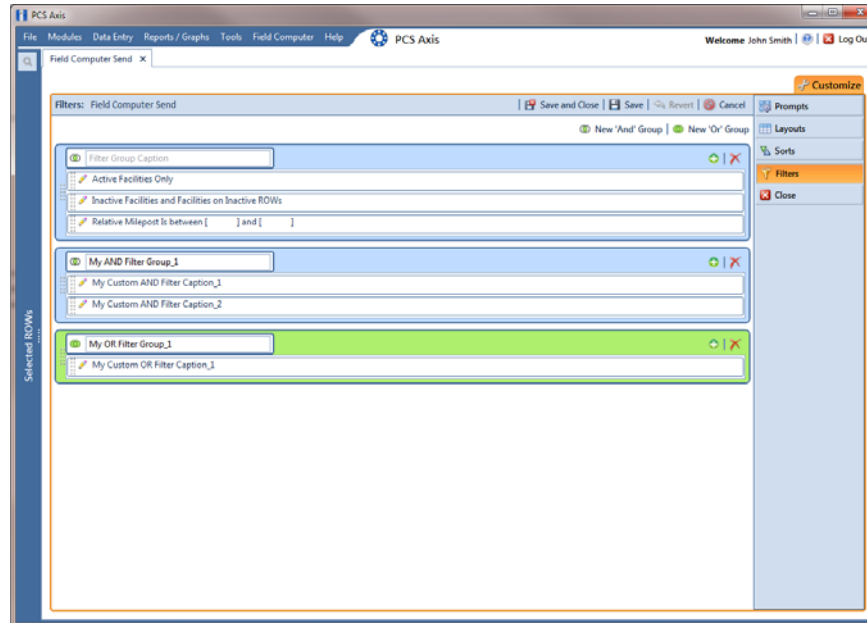

Figure 13-39. Filters
- 4** Click the **Customize** tab , then the **Filters** button  to open the *Filters* page (Figure 13-39, page 597).